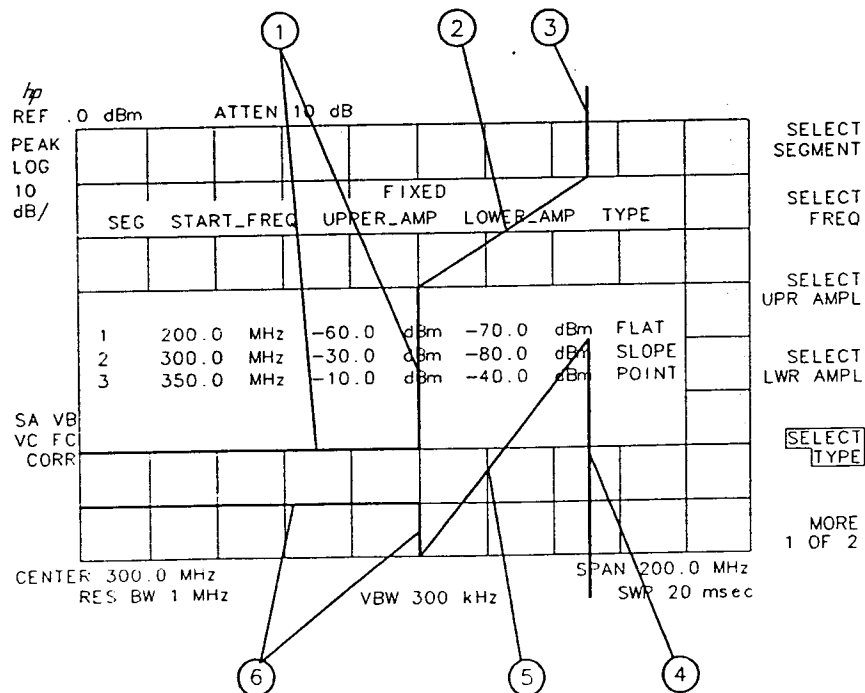

Figure 1-11. Segment Types
- Flat draws a zero-slope line between the coordinate point of the current segment and the coordinate point of the next segment, producing limit-line values equal in amplitude for all frequencies between the two points. If the amplitude values of the two segments differ, the limit-line will "step" to the value of the second segment. See Figure 1-11.
Figure 1-11 demonstrates the different segment types.